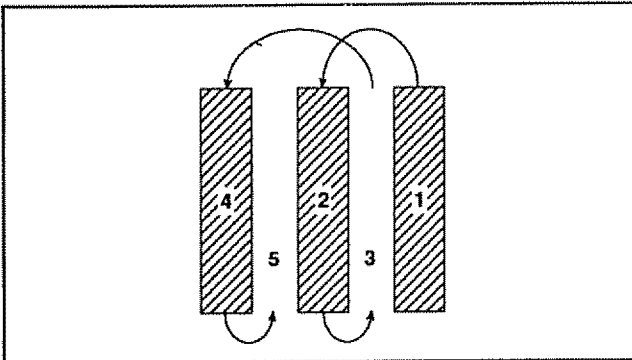

FIGURE 17
- For easier handling of your Tiller, leave about 8 inches of untilled soil between the first and second tilling passes. The third pass will be between the first and second (Fig. 17).